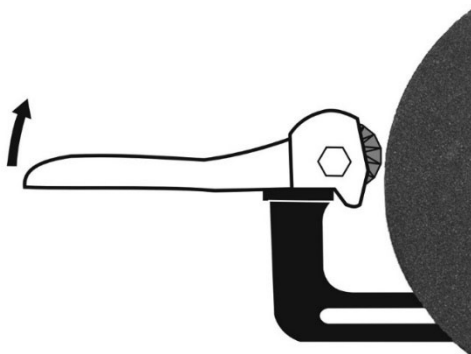

Figure 10-4: wheel dressing
- Back off the tool rest enough to allow the dresser to hook over its inside edge (Figure 10-4). Tighten tool rest in position.